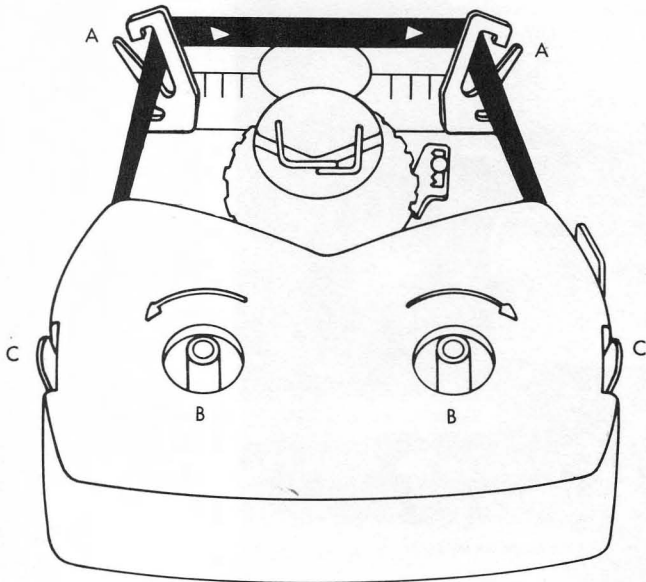
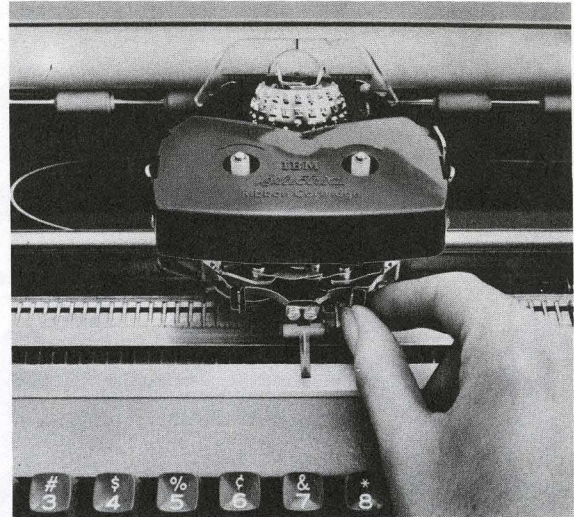

Figure 17. Removing Ribbon Cartridge
Figure 21. Positioning Ribbon Change Lever
1. Move ribbon-change lever to the far right (see Figure 21). This will raise the ribbon for easier removal from the ribbon lifts (A), Figure 17.
2. Lift the cartridge upward and off the ribbon-cartridge spindles (B) to free it from the retaining clips (C), Figure 17.
3. Ease the ribbon out of the slots in the ribbon lifts (A), Figure 17.
1. Make sure ribbon-change lever is at far right (see Figure 21).
5. Move the ribbon-change lever back to the left (Figure 21).